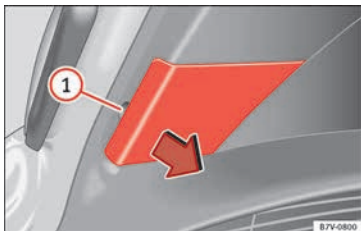

Fig. 112 On the rear lid: Remove the cover.
2. Extract the cover carefully using the flat part of the screwdriver from the vehicle tool kit as a lever (» Fig. 101) on the indent » Fig. 112 ①.